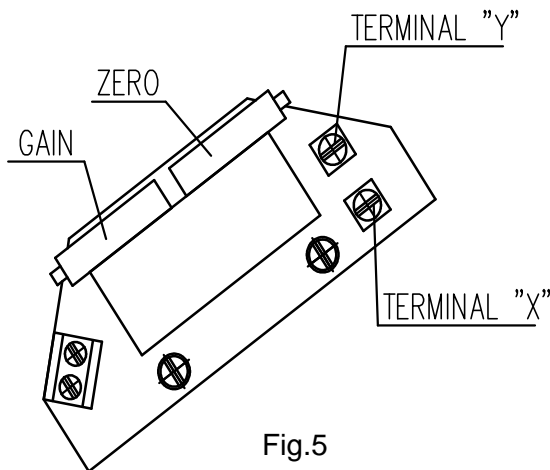

Fig.5
##### 4.4.1 EPV – the 2-wire version (Fig. 5,5a)
- Adjust the resistive transmitter according to the previous chapter. The resistance is to be metered on the terminals X-Y (Fig. 5,5a). The used transmitter resistance is 100 Ω.
- Turn the adjusting trimmer ZERO (Fig. 5,5a) to adjust the output current signal rate measured on the terminals 81-82 to 4mA.
- Turn the adjusting trimmer GAIN (Fig. 5,5a) to adjust the output current signal rate measured on the terminals 81-82 to 20mA.